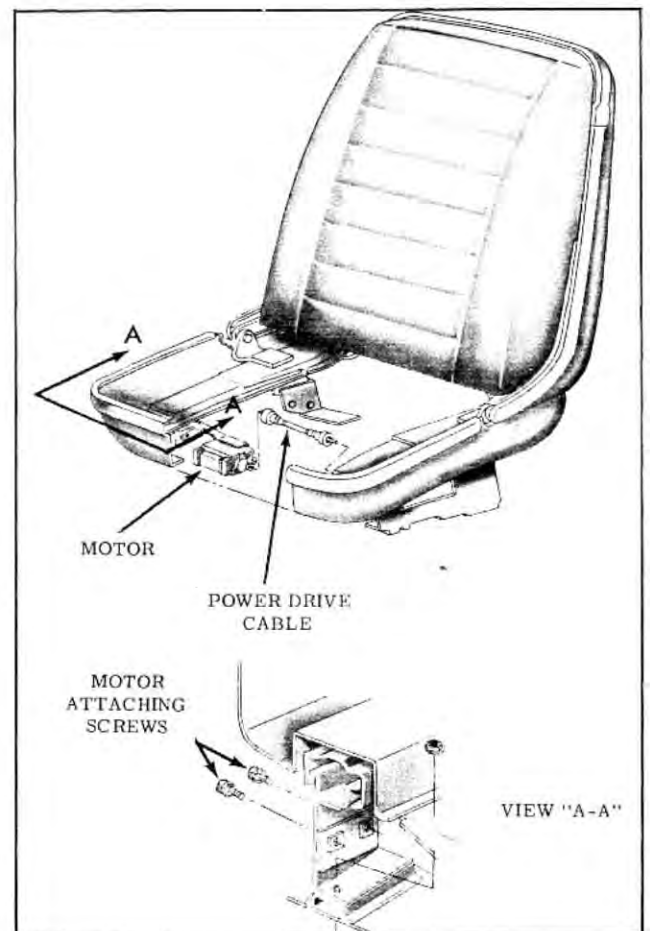

Fig. 18 Power Seat Mechanism
3. Disconnect power drive cable at adjuster gear nut. (Fig. 18)
2. Remove screws and washers that secure actuator motor to motor support, indicated in View "A-A", Fig. 18.